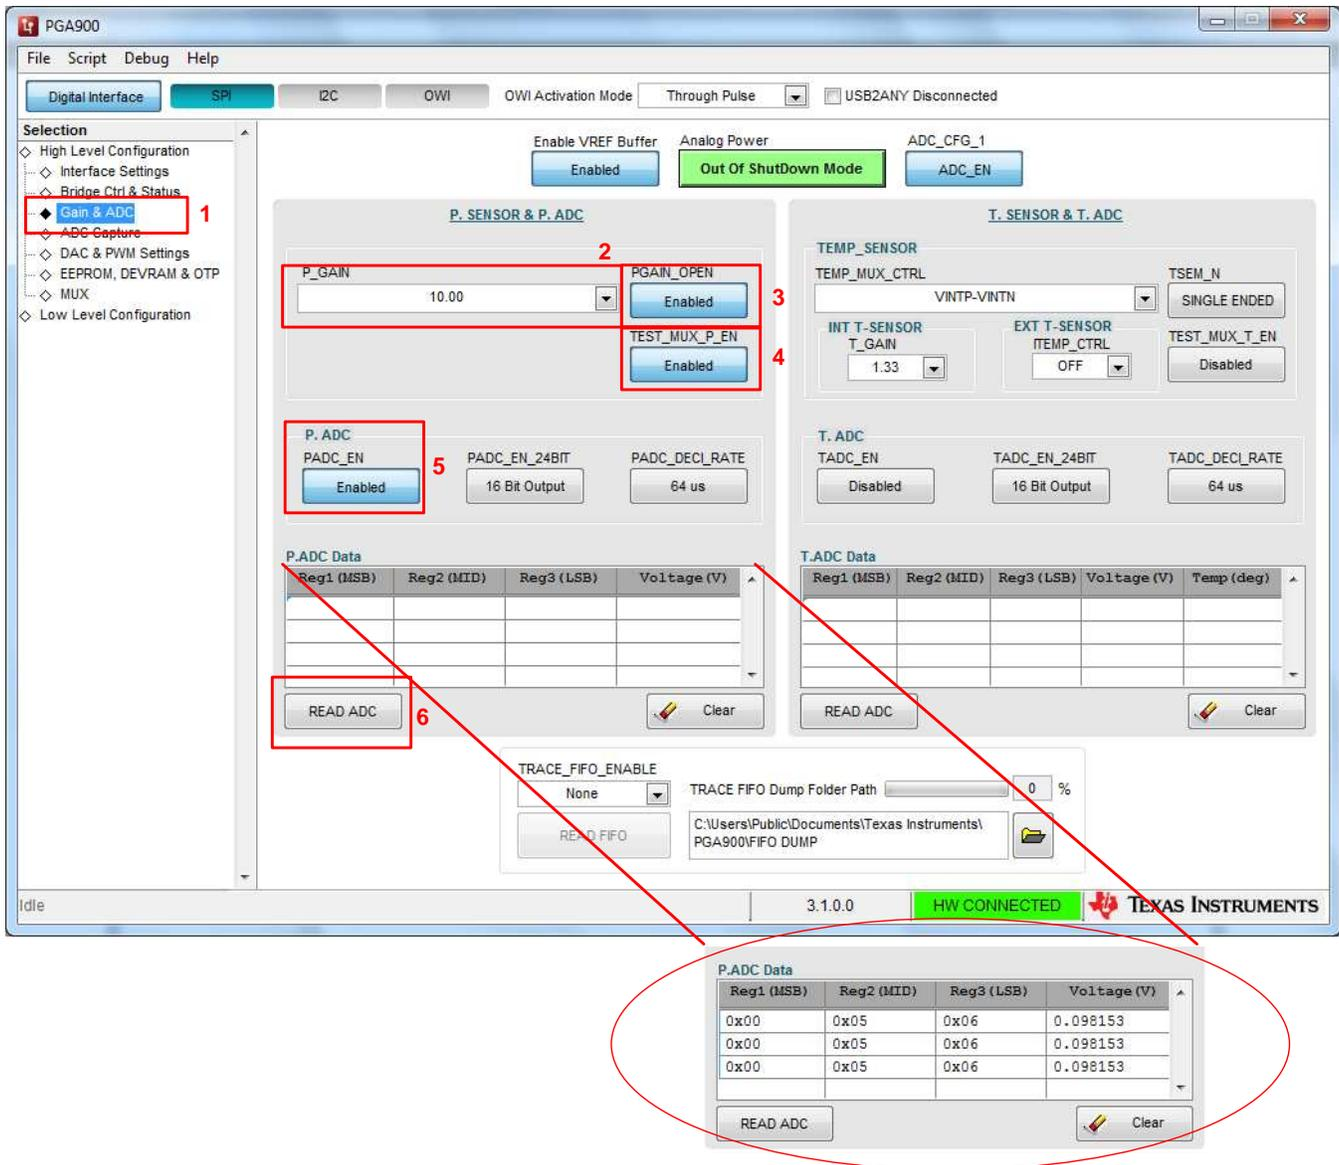

Figure 6. Configuring the PADC
- Click on the "Gain & ADC" tab. Select a gain for the PGAIN and enable the multiplexers to connect the PGAIN to the PADC as shown in Figure 6. The number of bits and decimation rates can also be chosen. Then click on "Read ADC". For this particular example a gain of 10 V/V was selected for PGAIN and the differential input voltage was set to approximately 10 mV in the previous step. As a result, the ADC input voltage is close to 100 mV.